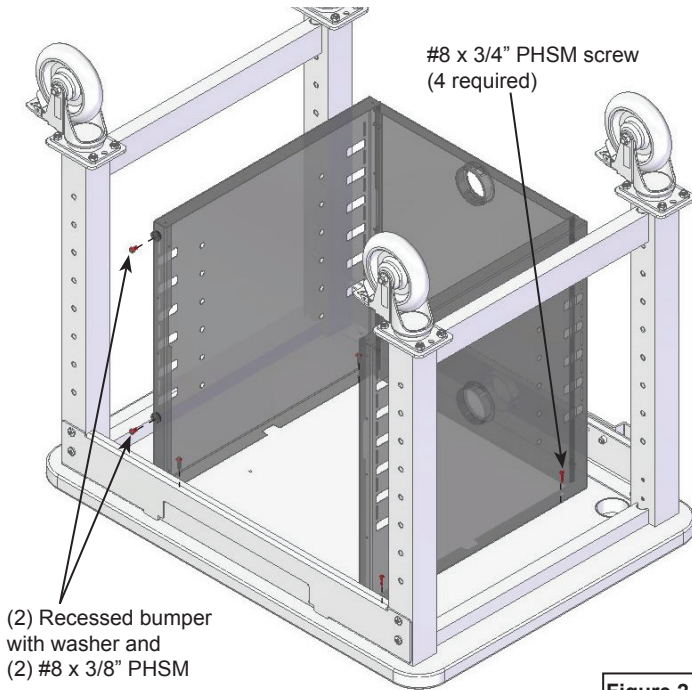

Figure 2.1
2. Set the cabinet onto the worksurface underside and align with the mounting holes. **Figure 2.1.**
3. Secure the cabinet to the worksurface with (4) #8 x 3/4" PHSM screws and tighten securely.
4. Attach the (2) recessed bumpers to the side opposite the preferred hinge-side as shown using (2) #8 x 3/8" PHSM screws.